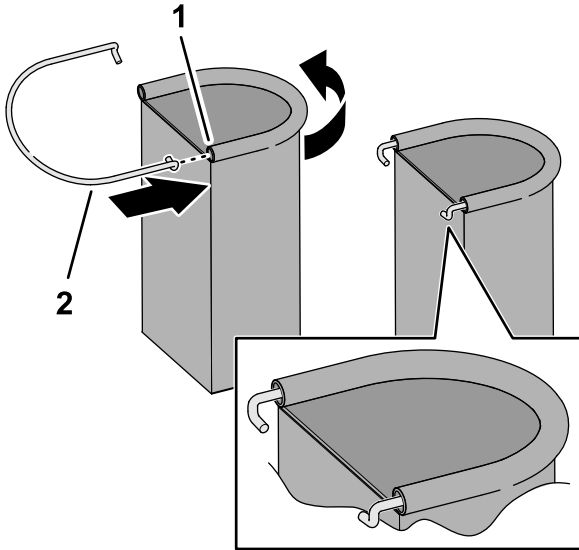

Figure 26
1. Insert a hoop rod into the sleeve of the PPE storage bag as shown in Figure 26.